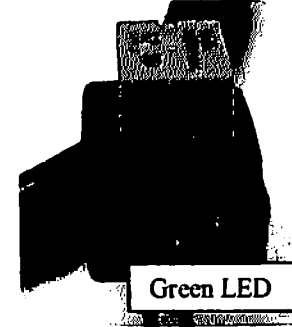

Figure 7
- 8) If all connections are proper, green LED will light only when vehicle is running (See Figure 7).